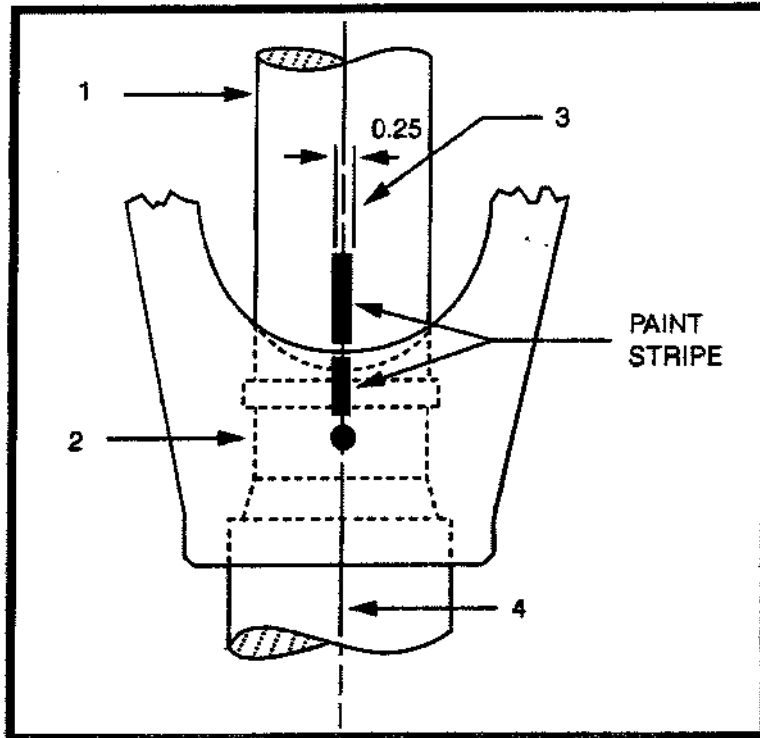

Fig. 3.10. Aircraft Drawing.
36. (Refer to figure 3.10) Identify the extension line.